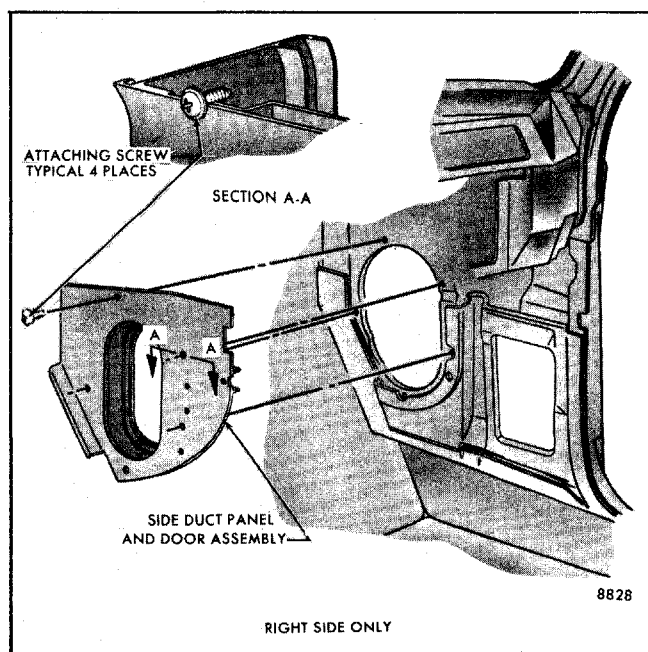

Fig. 4-16 - Side Duct Panel and Door Assembly
3. Remove four side duct panel to side shroud panel attaching screws (Fig. 4-16); then remove duct panel and door assembly.